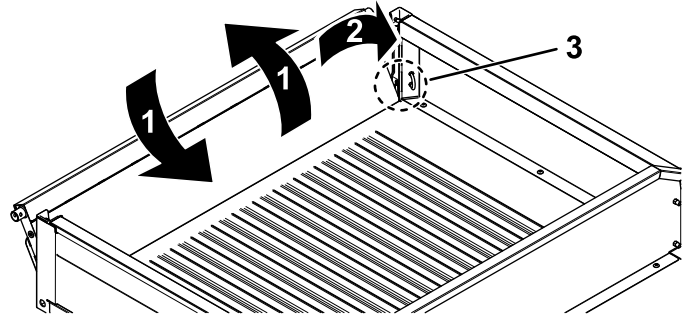

Figure 45
2. Rotate the tailgate to approximately the 45° position (Figure 45).
3. Use a short, shaking motion to rotate the tailgate back and forth several times (Figure 45).